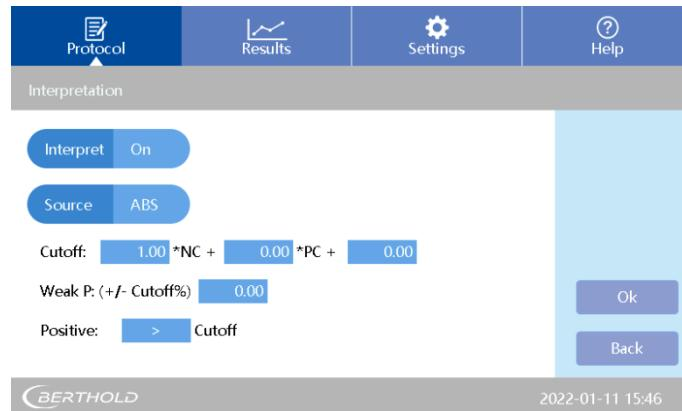

Fig 31: Qualitative analysis
2. Click <Interpret> on the [Protocol] interface to enter the submenu [Interpretation] for qualitative analysis. See Fig 31.